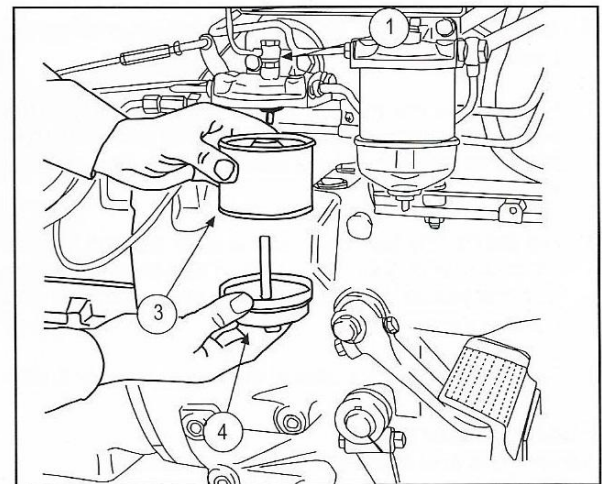

Fig. 77
3. Remove the centre bolt (1, Fig. 77).
4. Remove the element (3) and the bowl (4) from the head and discard the element.
5. Reassemble with new filter element (3) and new gaskets. Remove air from the fuel system and check for leaks.